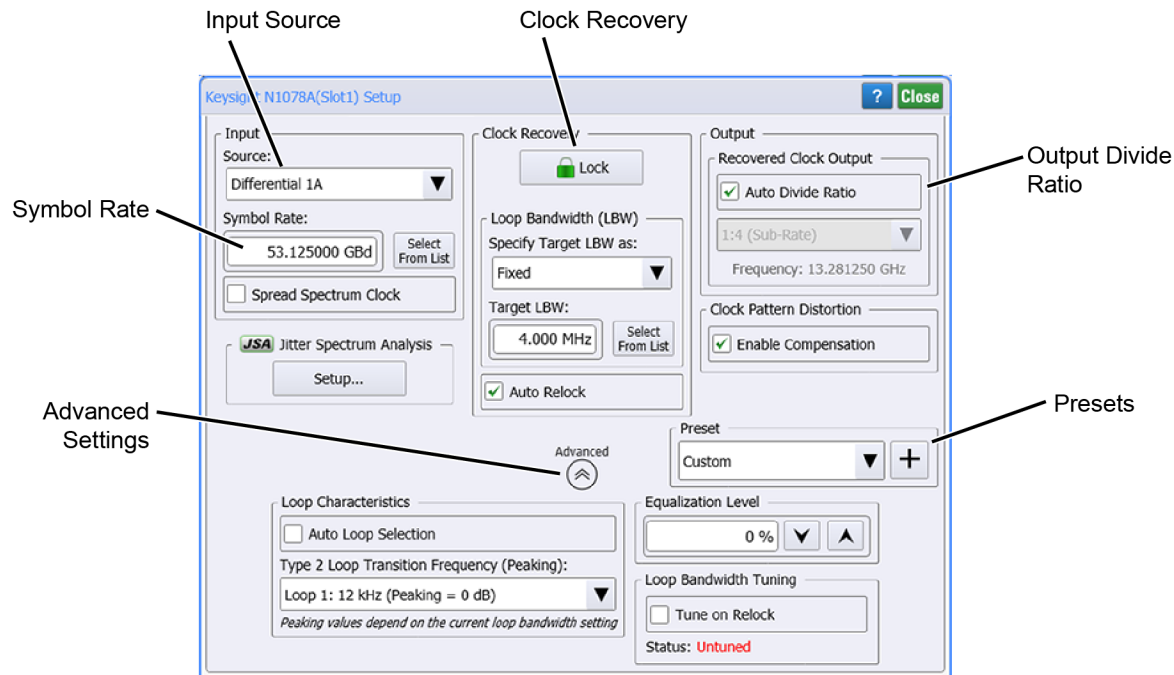

Figure 33. Clock Recovery Setup Dialog
6. Click **Setup > Modules > (Slot 6): Clock Recovery**. The Setup dialog is shown *Figure 33 on page 76*. The picture does not show settings required for this procedure.